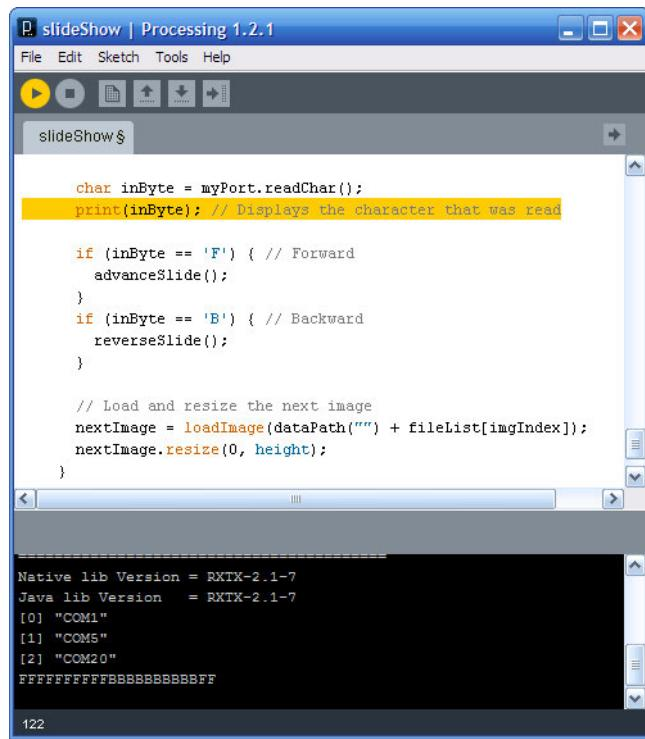

Figure 5-26. Processing displaying the characters it reads from the Arduino over the serial port
- ➏ The `draw()` function is similar to Arduino's `loop()` in that it's called continuously. Because Processing draws graphics and animations, this function is called a certain number of times per second (60) unless you change the frame rate with the `frameRate()` function.
- ➐ This block checks to make sure there is some text to read from the serial port. If so, it reads it and prints it out (see Figure 5-26).